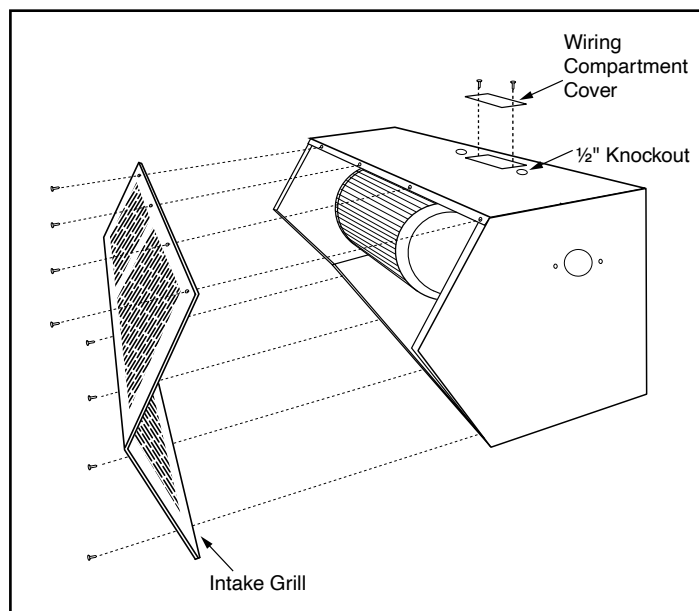

FIGURE 9
2. Remove the intake screen by removing all Phillips head screws around the edge. **See FIGURE 9.**